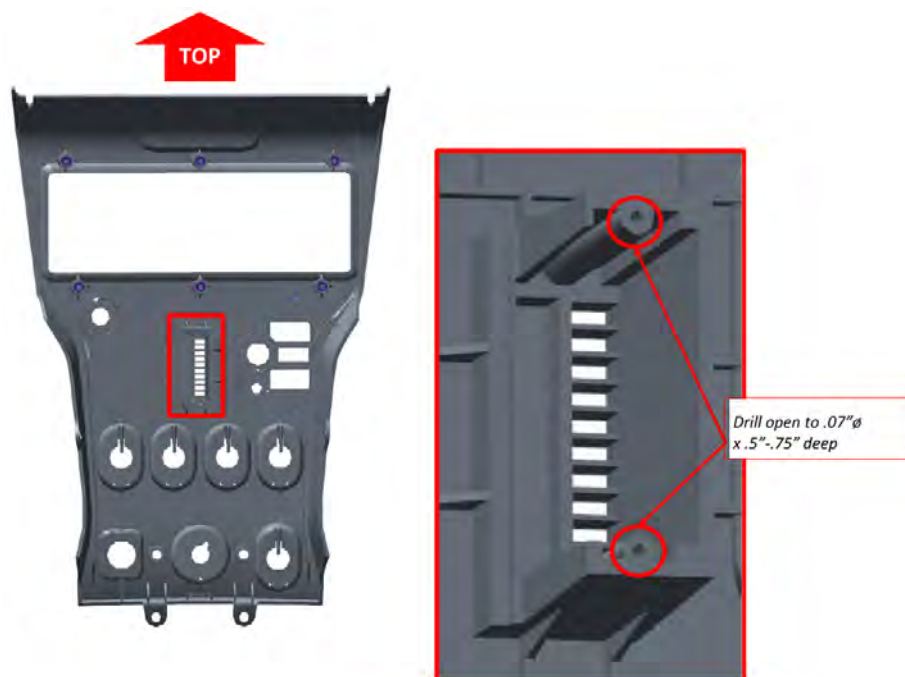
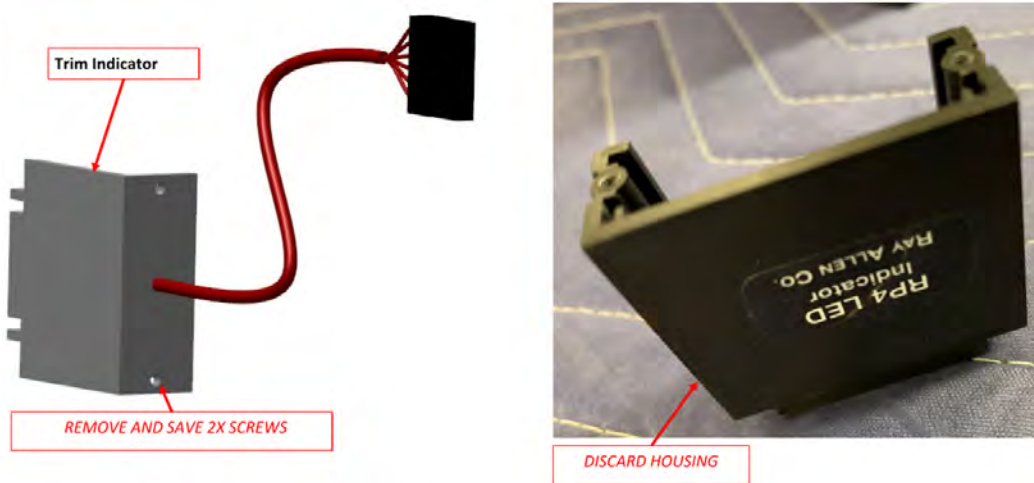

FIGURE 4-4
FIGURE 4-5
4. Remove trim position indicator. (See Figure 4-4. See Figure 4-5.)